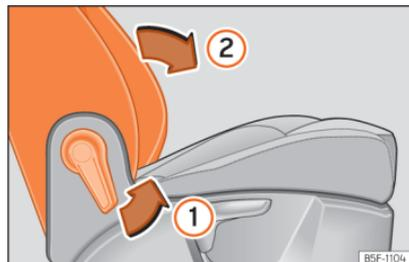

Fig. 161 Front passenger seat: lever for folding down the backrest.
- Pull lever  **1**  **Fig. 161** and push the seat backrest  **2** until the backrest is horizontal.